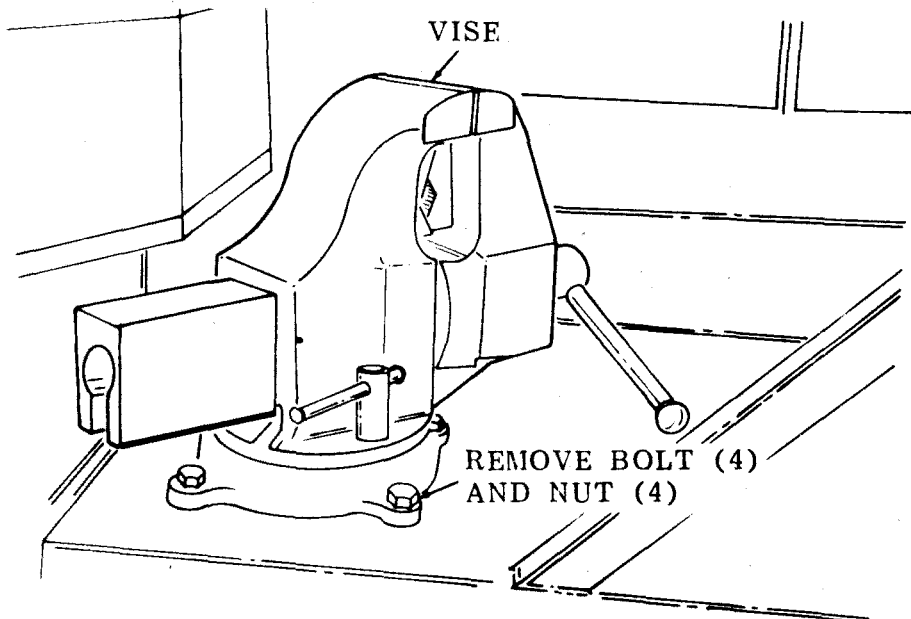

Figure 15-9. Vise, Removal and Installation.
- a. Removal. Remove the vise as illustrated in figure 15-9.
- b. Installation. Install the vise as illustrated in figure 15-9.